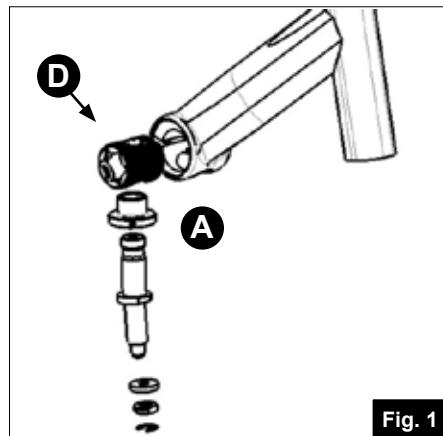
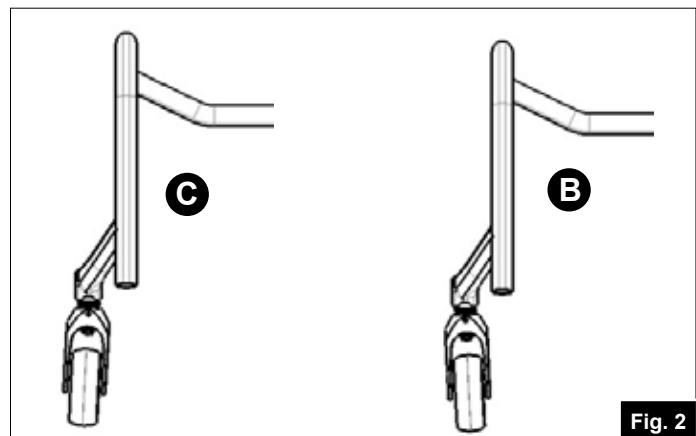

Fig. 1
Fig. 2
The settings for directional stability and the castor fork height are combined; by twisting the slightly angled castor axis (A) (Fig. 1), the fork moves inwards (B) or outwards (C) (Fig. 2). At the same time, the distance of the fork from the frame also changes by 1 mm for every full rotation of the castor axis.
- In case there is a need to replace the barrel nut shown in Fig. 1-D, it is strongly recommended to add carbon assembly paste (part number 71208300), to ensure an optimal adjustment. It is highly recommended this adjustment to be performed by an authorized specialist.